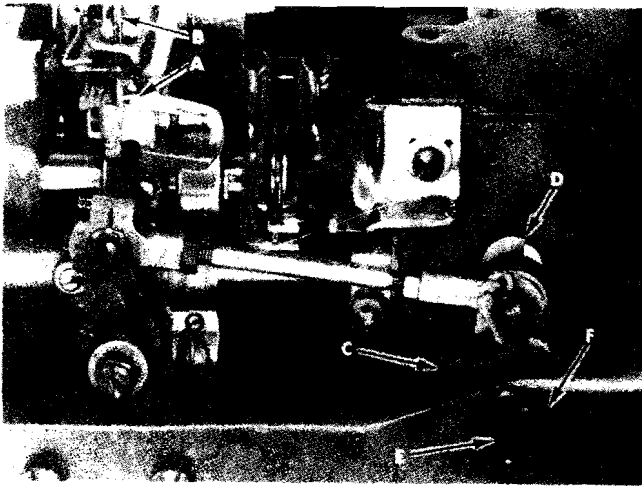
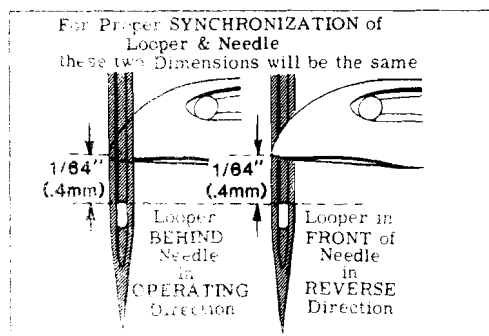
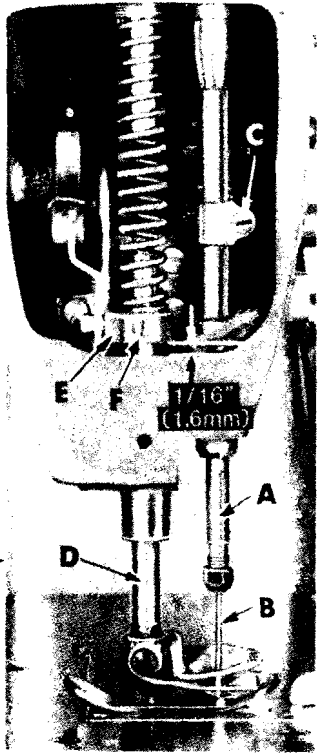

Fig. 3
Fig. 4
Fig. 8
Turn handwheel in the operating direction until the point of the looper (A, Fig. 3) moving to the left, is even with the left side of needle (B). Note the height of the eye of the needle with respect to the looper point (See Fig. 4). Turn the handwheel in the reverse direction until the point of the looper again moving to the left, is even with the left side of needle (See Fig. 4). If the height of the eye of the needle with respect to the looper point are the same, looper and needle motions are synchronized - a variation of .005 inch (.127mm) is allowable. If the distance from the eye of the needle to the point of the looper is greater when the handwheel is turned in the operating direction, the looper
NOTE: The 1/64 inch (.4mm) dimension shown in Fig. 4 is for final setting of needle bar height.
Loosen screw (C, Fig. 3) in looper drive lever (D). A rod of .146-40 thd. or Union Special Screw No. 22870 A can be threaded into the looper drive lever rocker shaft through the center of thrust adjusting screw (E). Tap or pull slightly as required to position shaft for proper synchronization. Tighten screw (C) securely and remove rod or screw used to position shaft.
Height of needle bar (A, Fig. 8) is correct when the top of the eye of needle (B) is $\frac{1}{64}$ inch (.4mm) below the underside of looper as shown in Fig. 4. Adjustment can be made by loosening screw (C, Fig. 8), move needle bar (A) up or down as required, retighten screw.
Height of presser bar (D, Fig. 8) is set correctly if it is possible to remove the presser foot when the foot lifter lever, located at the back of the machine and extending above the upper crank chamber cover is fully actuated (pulled to the right). There should be approximately 1/16 inch (1.6mm) clearance between lower surface of the presser bar connection and guide (E) and bottom surface of head opening in the bed when foot lifter lever is released and presser foot lying flat on the throat plate with feed dog below throat plate.